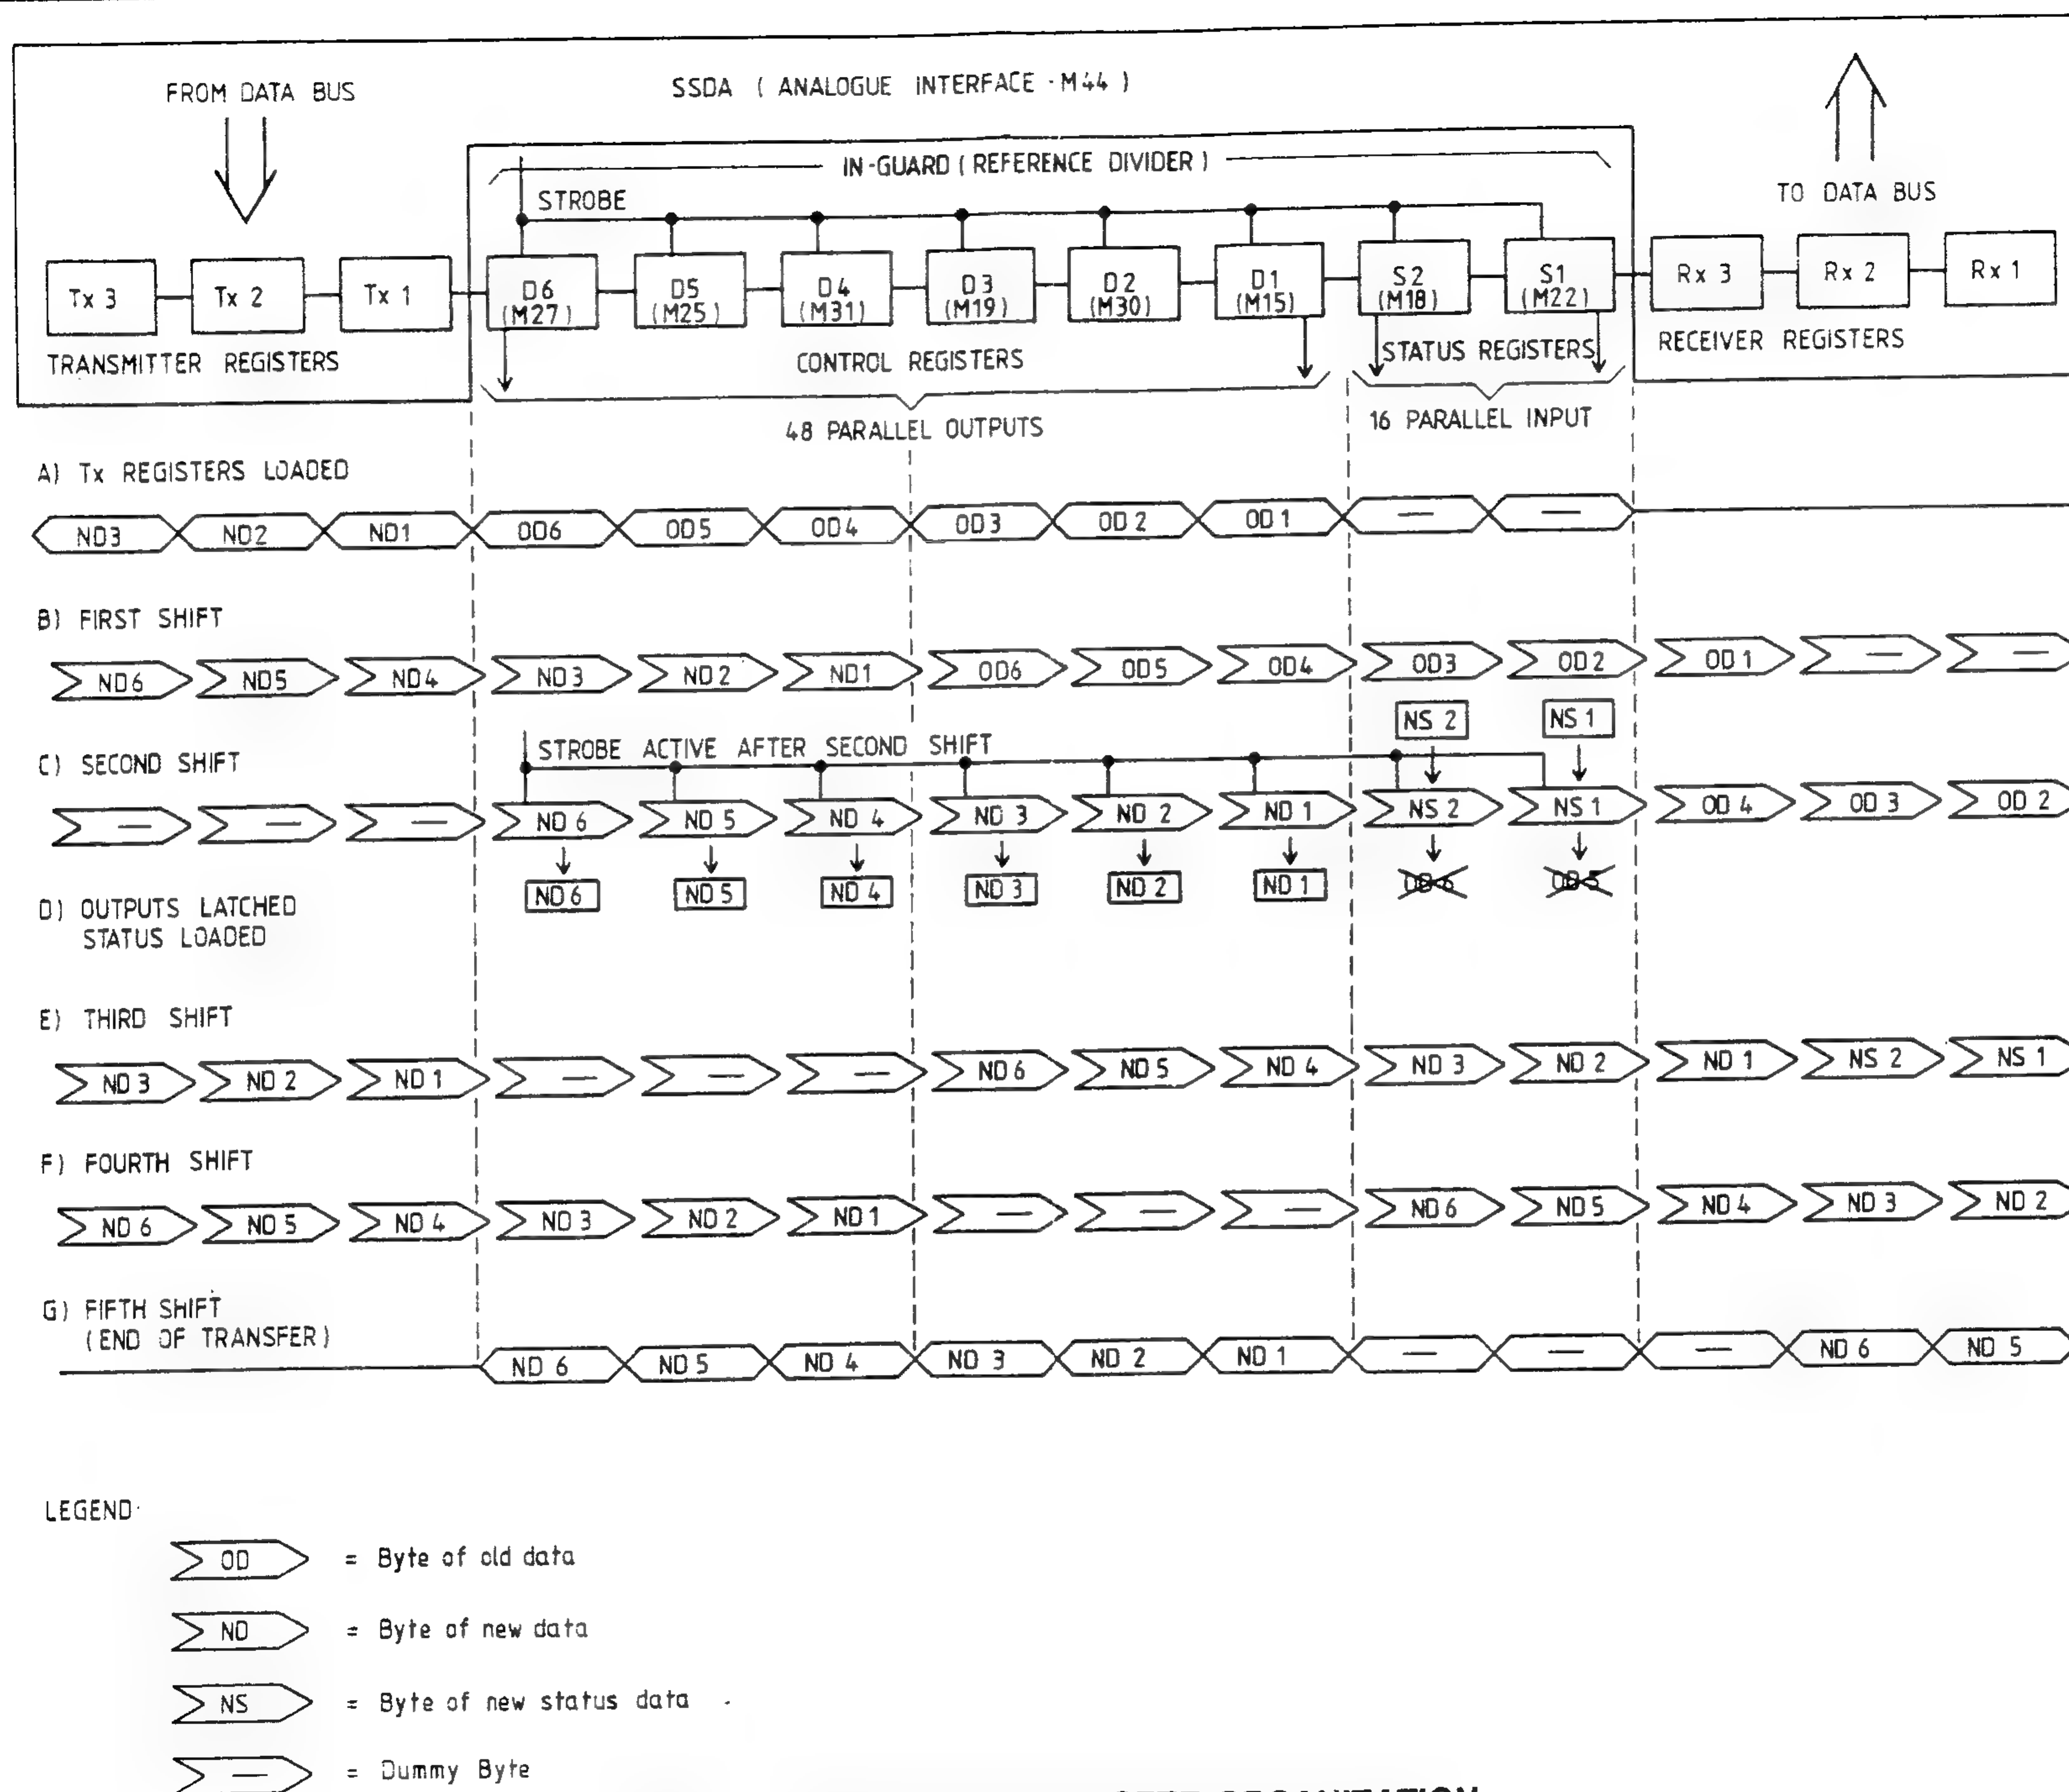

FIG. 6.15 SERIAL DATA TRANSFER ORGANIZATION
6.4.2.2 Data Transfer Organization (Fig. 6.15)
The sequence of events in the transfer operation is as follows, referring to *Fig. 6.15*: